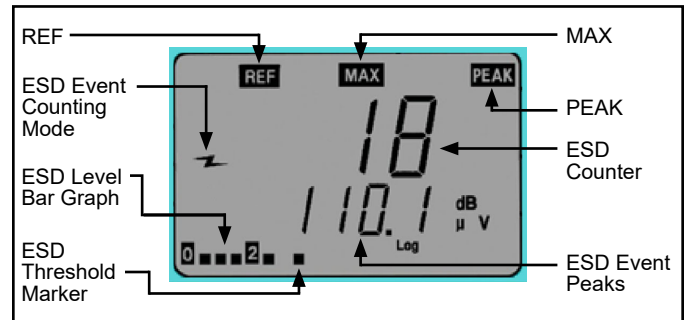

Figure 5. ESD Event channel
1. Toggle the joystick until the ESD Event channel is displayed (Figure 5).